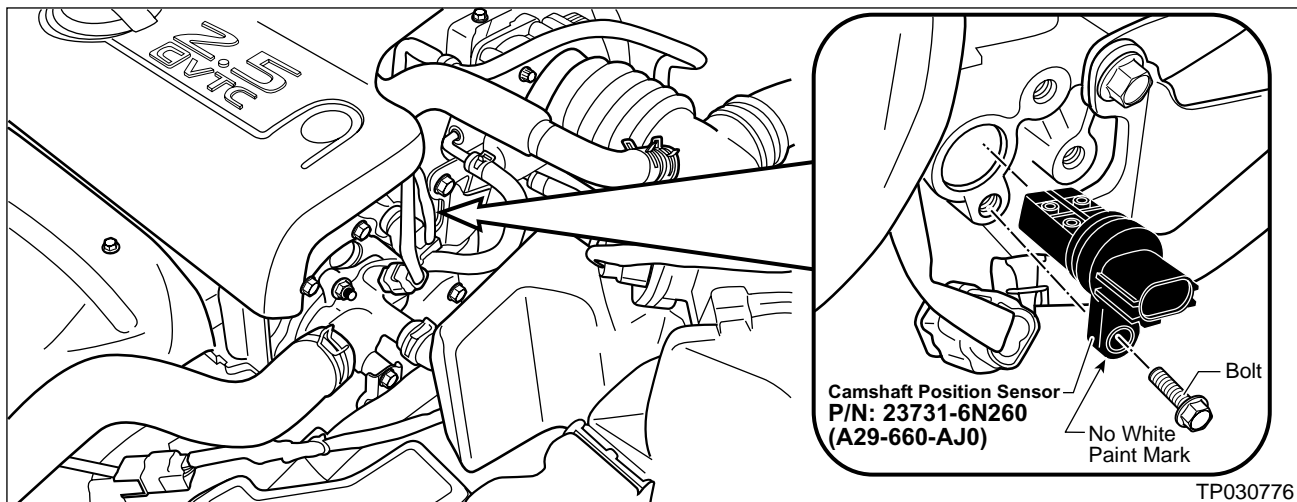

Figure 5
3. Locate the **Camshaft Position Sensor** (see Figure 5).